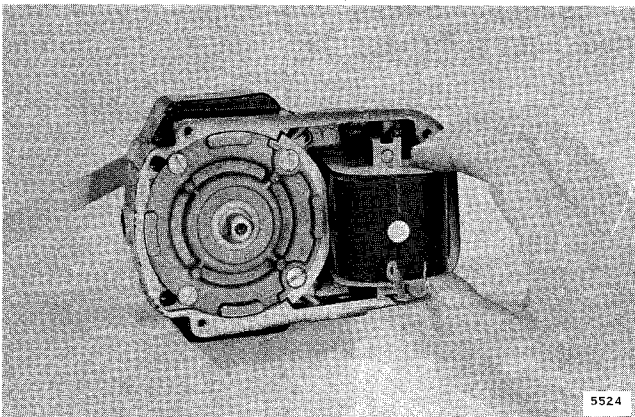

Figure 4-8. Removing Coil
e. Disconnect coil primary leads from insulated screw terminal and retainer spring screw. Remove retainer springs and lift coil from housing. See Figure 4-8.